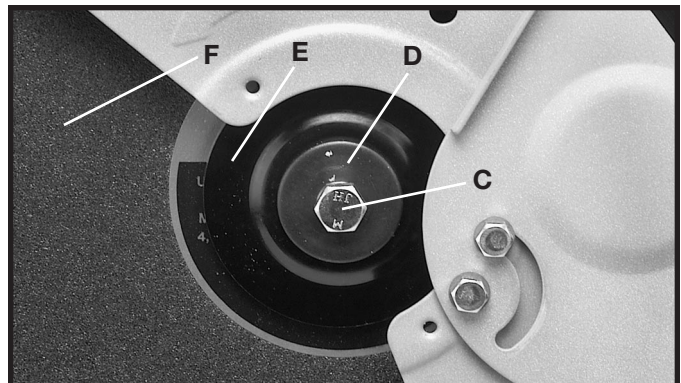

Fig. 23
3. Using the wrench provided, loosen arbor screw (C) Fig. 23, by turning it counterclockwise and remove arbor screw (C), washer (D), outside wheel flange (E) and wheel (F). **DO NOT REMOVE INSIDE WHEEL FLANGE.**
5. Install new wheel, outside wheel flange (E) Fig. 23, washer (D), and arbor screw (C). Turn arbor screw (C) clockwise to tighten.
**⚠ CAUTION** USE ONLY RECOMMENDED REINFORCED ABRASIVE WHEELS WITH BLOTTERS AND TIGHTEN THE ARBOR SCREW (C) ONLY ENOUGH TO HOLD THE WHEEL FIRMLY AND PREVENT WHEEL SLIPPAGE. EXCESSIVE TIGHTENING MAY RESULT IN DAMAGE TO THE WHEEL AND SPRINGING THE WHEEL FLANGES.